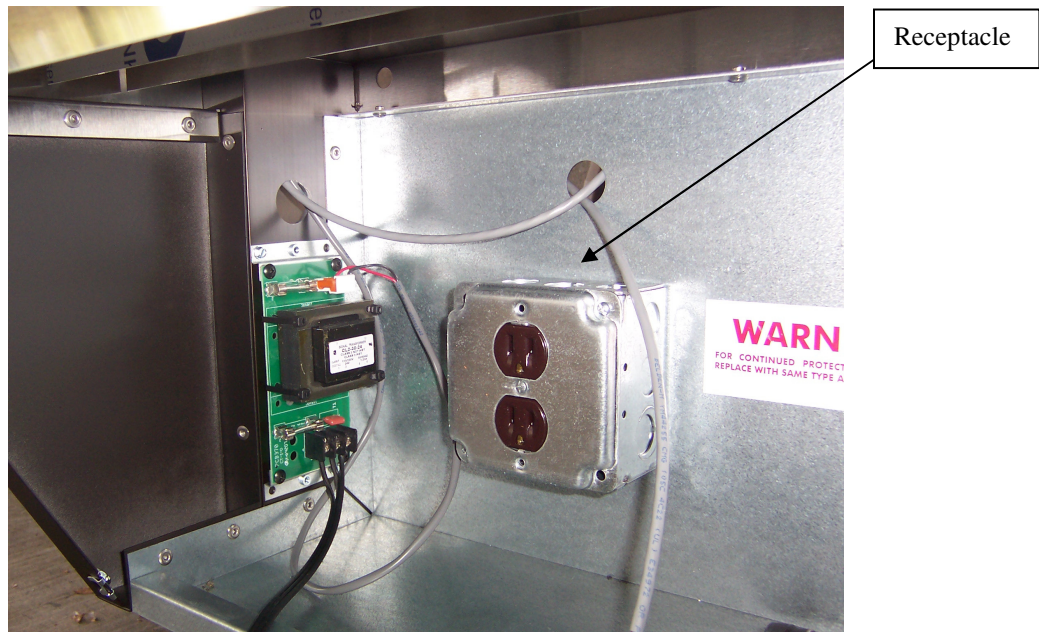

Figure 9
2. Wire the AC source line to the receptacle. (See Figure 9)